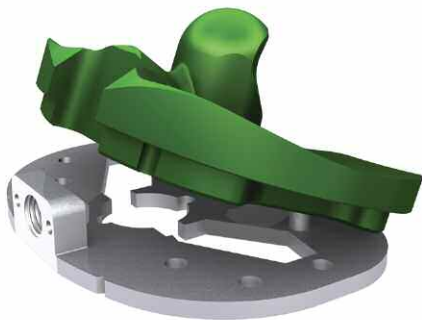

Figure 72
- Replace the Trial Femoral Component on the femur. Assemble a Tibial Bearing Insert Trial to the Tibial Trial Baseplate by first positioning it posteriorly on the baseplate and then fully seating it anteriorly (**Figure 72**). Reverse the steps to dis-assemble the insert trial from the baseplate.